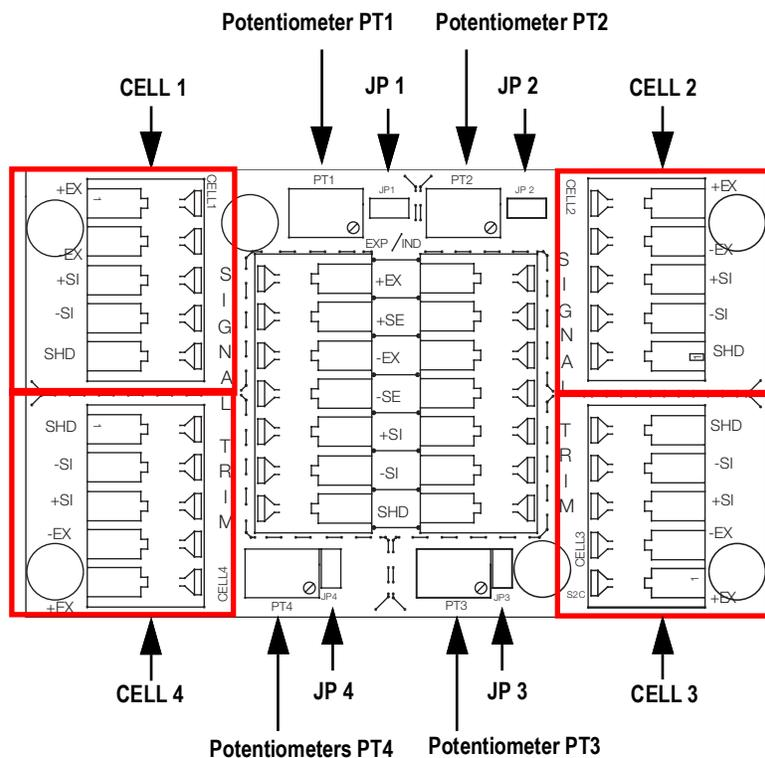

Figure 2-4. Signal Trim Main Board
2. Ensure jumpers are in place to enable trimming of the cells corresponding to each load cell. See Figure 2-4 for the location of jumpers JP1, JP2, JP3, and JP4.
Access ramps can only be attached to the scale on one of the two scale sides that are perpendicular to the longitudinal axis of the load cells. For example, the scale shown in Figure 2-4 on page 10 could have an access ramp on the left side as shown, and/or on the right side. The top and bottom sides, however, will not accept the ramp mounting plates.